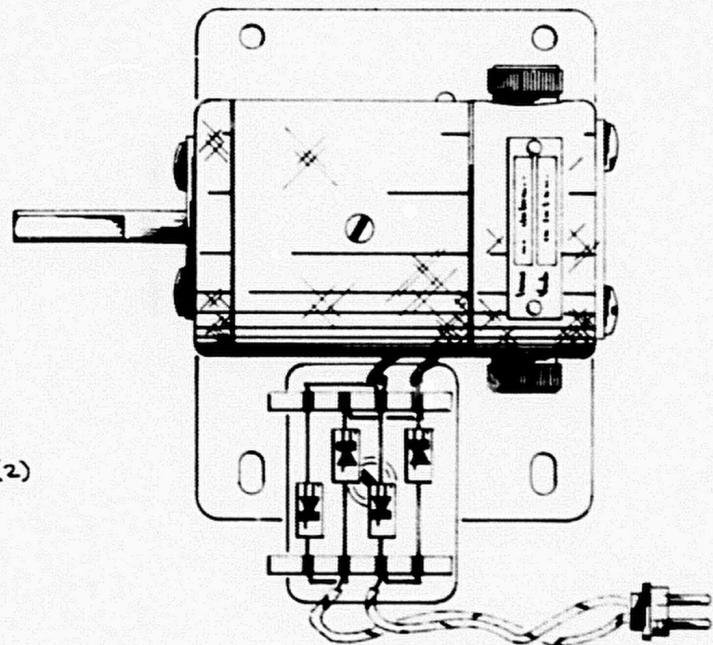

Fig. 2
- () 2. Install the silicon assembly (from kit) using the rear mounting hole of the two used for the selenium mounting bracket. Position the assembly as shown in Fig. 2.
- () 3. Solder the wires removed from the selenium rectifier to the new assembly as shown in Fig. 2.